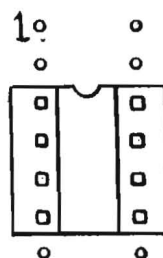

Fig. 1
3. Install and solder 8 pin sockets; leaving pins 1, 2, 7, 8, 13 and 14 open. See Figure 1, below.